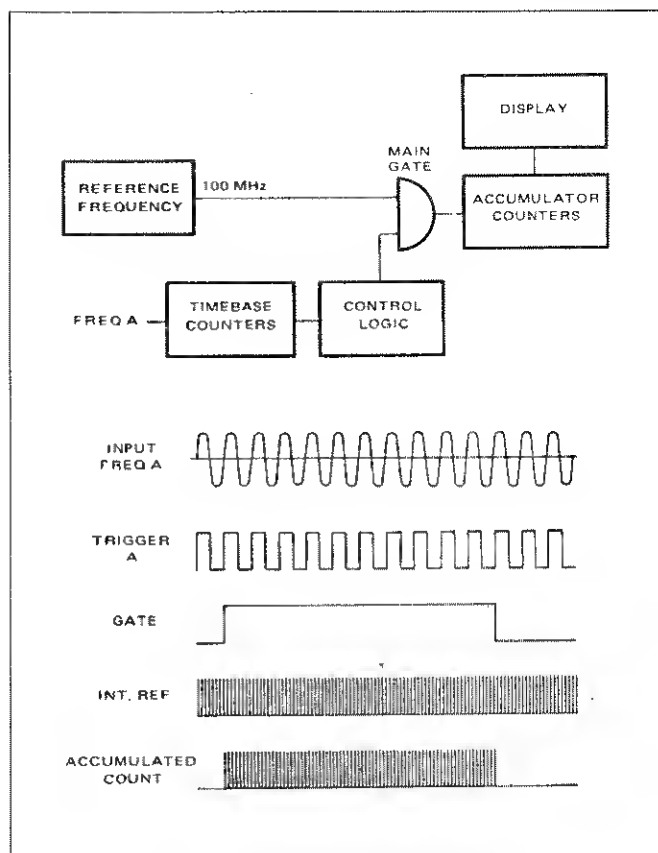

Figure 4.4 - Period Average
4.3.4.2 In this mode of operation (figure 4.4), the reference signal is routed directly to the main gate and the unknown signal is routed through the timebase to the control logic which, in turn, controls the main gate. The pulses occurring during main "gate open" are counted, stored, and an accurate readout measurement is displayed. The "gate open" period is determined by the timebase selected.